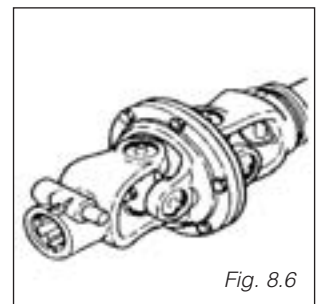

Fig. 8.6
1. To ensure uniform transmission of motion in any angular position Maximum articulation of the wide-angle CV joint 25° at continuous operation 80° at standstill and short duration. Lubricate the joint every 8 shaft operating hours. (Fig. 8.6.).